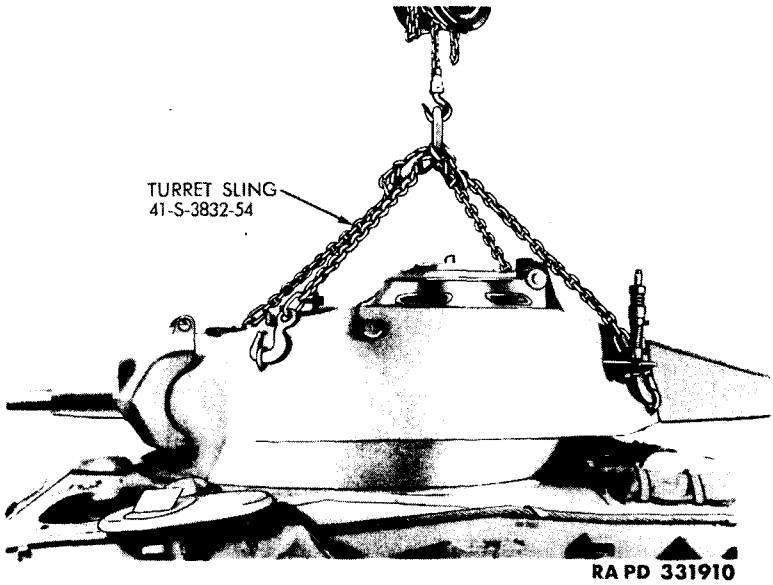

Figure 52. Removing turret assembly (M24).
c. REMOVE TURRET ASSEMBLY. Remove 42 screws holding turret ball ring to hull roof. Turn turret traversing lock to the released position. Attach turret sling (41-S-3832-54) to lifting eyes on turret (fig. 52); remove turret assembly. Place turret in suitable stand.